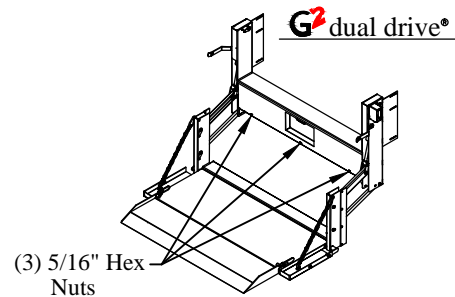

Figure 10: Box cover locations.
1. **Remove** the box cover by removing the 5/16" hex head nuts or bolts (Figure 10).